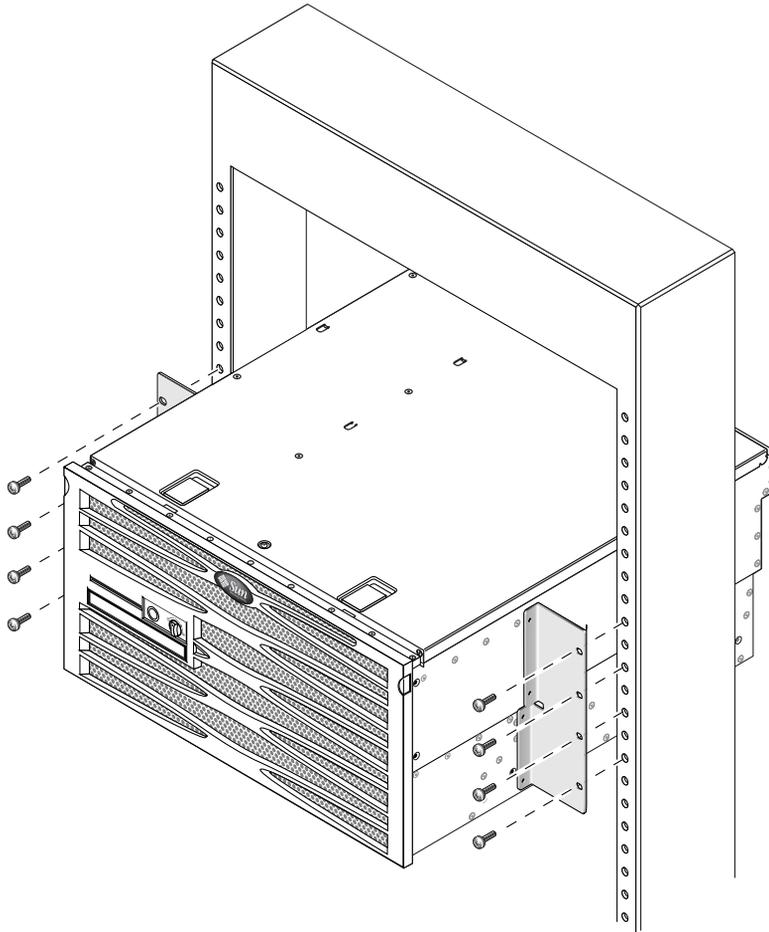

FIGURE 3-23 Securing the Front of the Server to the Rack
4. Using four screws per side, secure the front hardmount brackets attached to the sides of the server to the front of the rack (FIGURE 3-23).